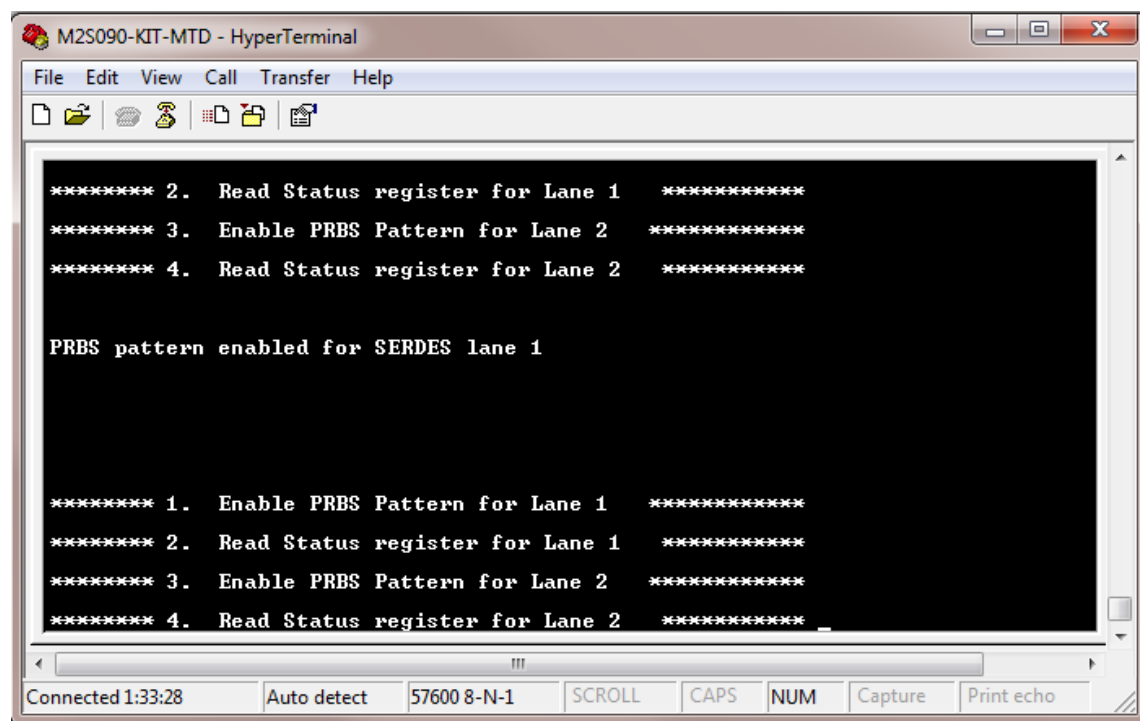

Figure 46 SERDES Lane1 Loopback Test
17. Press 1 to enable PRBS pattern for Lane 1. Refer to Figure 46.